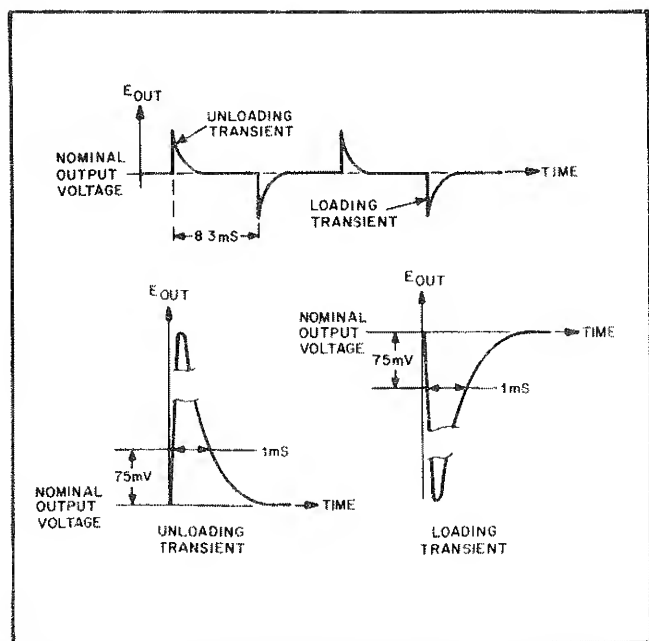

Figure 5-6. Load Transient Recovery Waveforms
- p. Starting from the major graticule division representing time zero, count to the right 1mS and vertically 75 mV, recovery should be within these tolerances as illustrated in Figure 5-6.